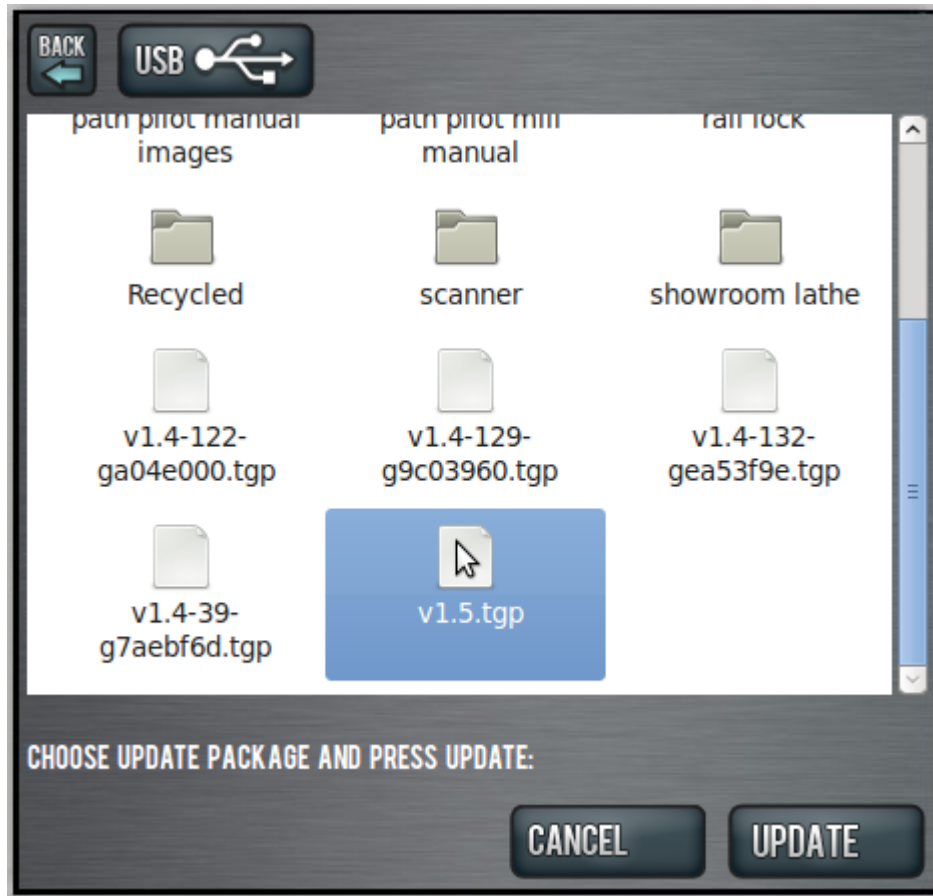

Figure 2
5. Navigate to the (vX.X) file on your USB drive and click *Update* (see **Figure 2**).